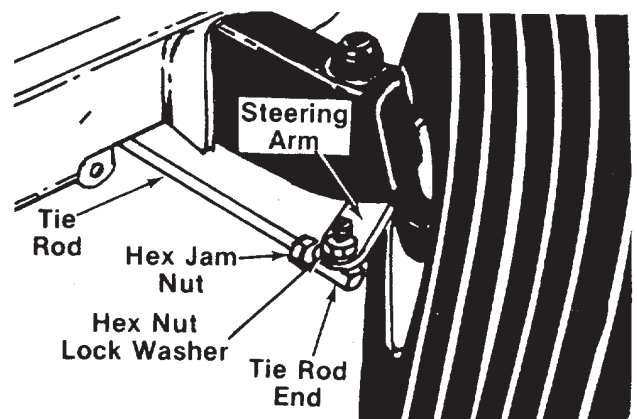

FIGURE 18.
1. Remove the hex nut and lock washer, and drop the tie rod end from the wheel bucket. See figure 18.